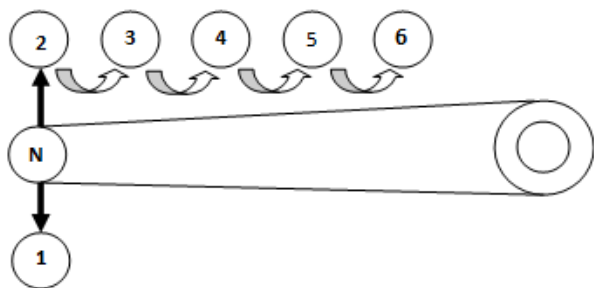

Figure 11. Upshift Pattern
- Lift the shift lever all the way up (full stroke) to shift the transmission to the next higher gear. See figure 11.